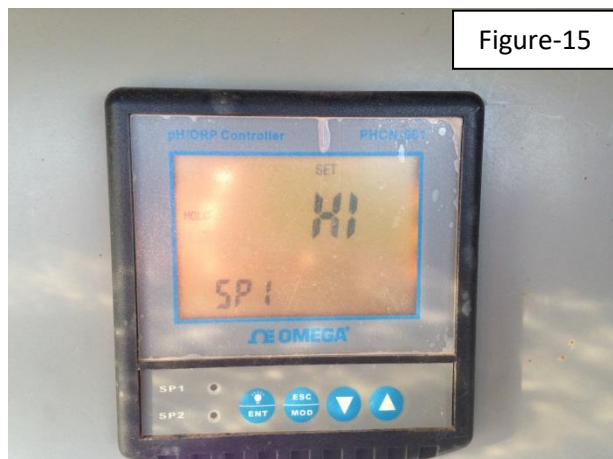

Figure-15
2.3.2.6. Use up (▲) and down (▼) arrows to select HI. See Figure-15 for illustration of PLC